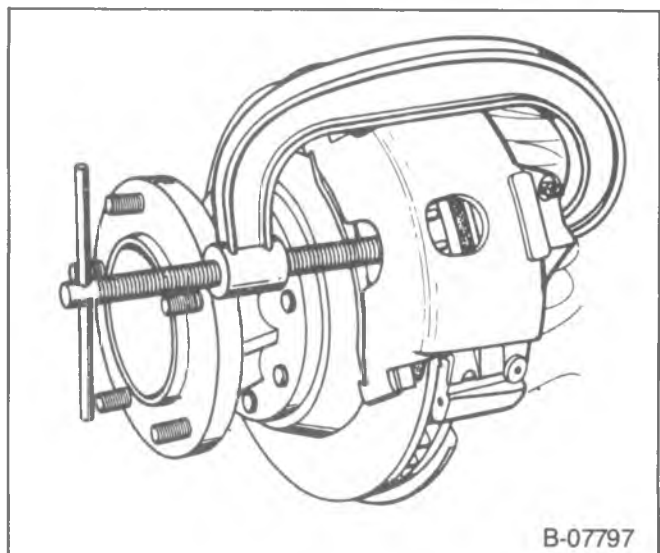

Figure 11—Compressing the Caliper Piston
- Position C - clamp and tighten until the piston bottoms in its bore (figure 11).
3. Bolt (8).
4. Support key (9) and spring (10).